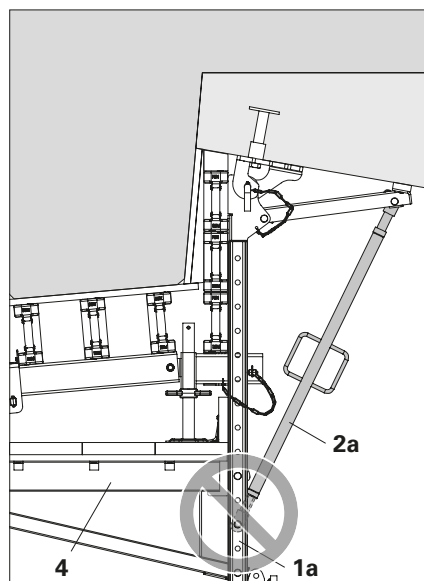

Fig. A4.01b
- Never attach Kicker Brace AV 82 (**2a**) between the fixing points of Platform Cantil. Beam VGK 170 (**4**). (Fig. A4.01b)